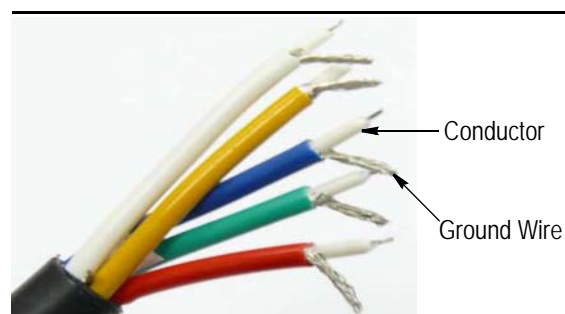

Figure 4
- d. Separate the conductor from the ground wire of each wire as shown in Figure 4. Tightly twist ground strands to ensure that strands do not make contact with adjacent conductors.